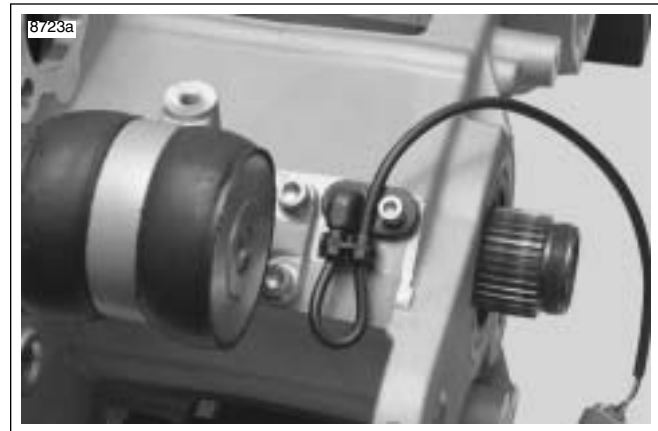

Figure 3-135. Rear Isolator Assembly
7. See Figure 3-135. Remove rear isolator assembly by removing the forward two fasteners first and then the two rear fasteners (re-install with new fasteners).